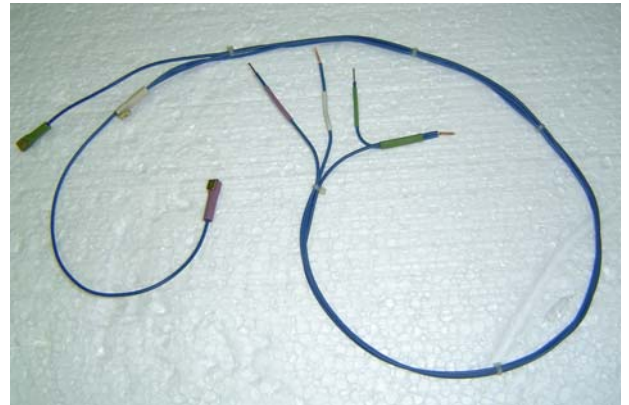

FIG. 2
Machines manufactured before June 2006 include a wiring kit to make the connections shown above. See FIG. 2. One side of the wiring kit has three caps (White, Violet and Green) with jumpers. The other side has 4 bare wires (White, Violet and (2) Greens)